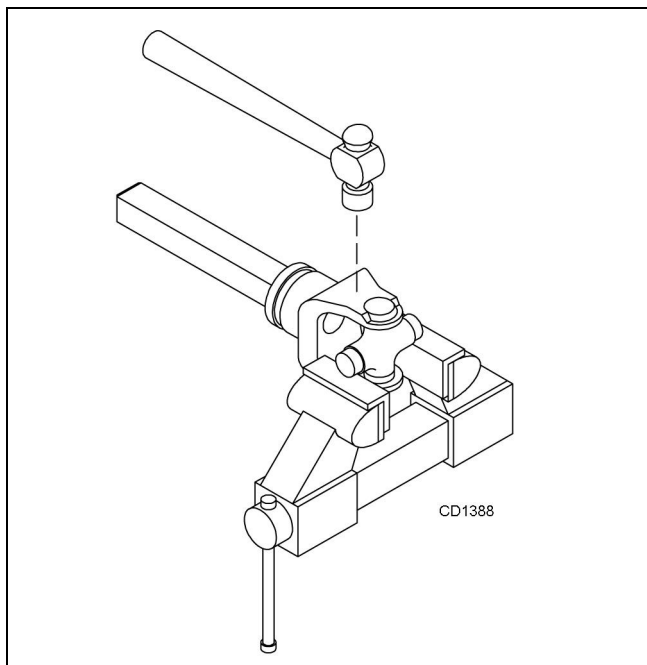

Figure 24. Remove Cups
4. Place universal cross in vise as shown in Figure 24 and tap on yoke to remove cup. Repeat Step 3 for final removal. Drive remaining cup out with a drift and hammer.